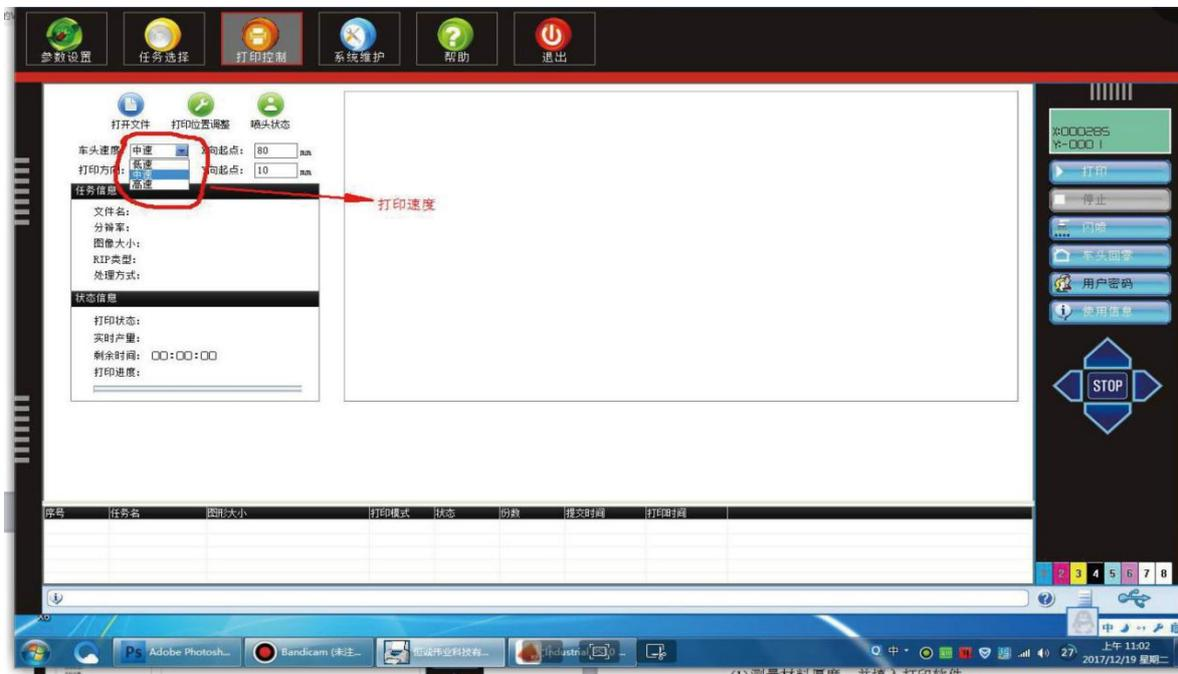

Figure 2 Starting position
3. Determine the starting position of the print: in the print control interface, XY fill in the corresponding values to determine the starting position of the print, as shown in Figure 2. head speed for the printer print speed, there are three speeds to choose from, as shown in Figure 3. print direction, there are three directions to choose from, as shown in Figure 4 (unidirectional picture is clearer, bi-directional speed)。